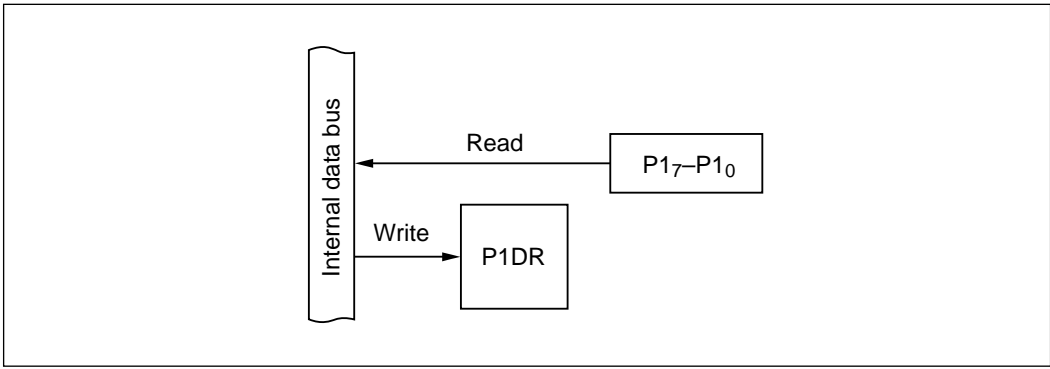

Figure 10-6 Input Port (Mode 7)
(2) Input Port (Mode 7): Figure 10-6 shows a block diagram illustrating the general-purpose input function. Table 10-4 indicates register read/write data. Values written in the port 1 data register (P1DR) have no effect on general-purpose input lines. When read, P1DR returns the value at the pin.